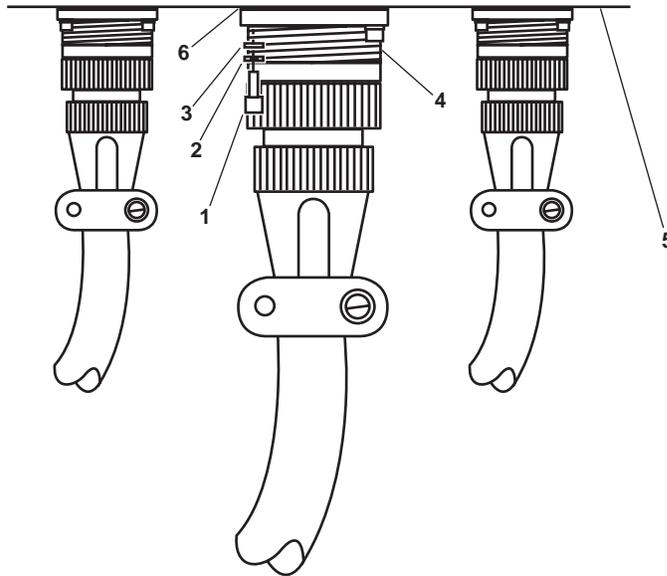

Figure 4. Electrical Connector Assembly
14. Remove the four cap screws (figure 4, item 1), the four lockwashers (figure 4, item 2), and the four flat washers (figure 4, item 3) securing the electrical connector (figure 4, item 4) to the sampling/sensor assembly (figure 4, item 5). Remove the electrical connector and the connector gasket (figure 4, item 6). Discard the connector gasket and the lockwashers.
10. Install a new connector gasket (figure 4, item 6) onto the electrical connector (figure 4, item 4).
11. Install the electrical connector (figure 4, item 4) onto the bottom of the sample/sensor assembly (figure 4, item 5) and secure it with the four screws (figure 4, item 1), four new lockwashers (figure 4, item 2) and four flat washers (figure 4, item 3).